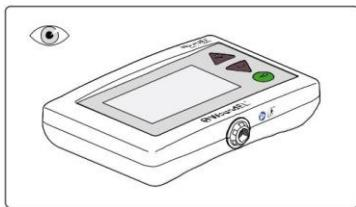

Figure 33. Check the device on all sides.
1. Check the WoundEL® device on all sides and the connection sockets for visible signs of dirt see *Figure 33*.